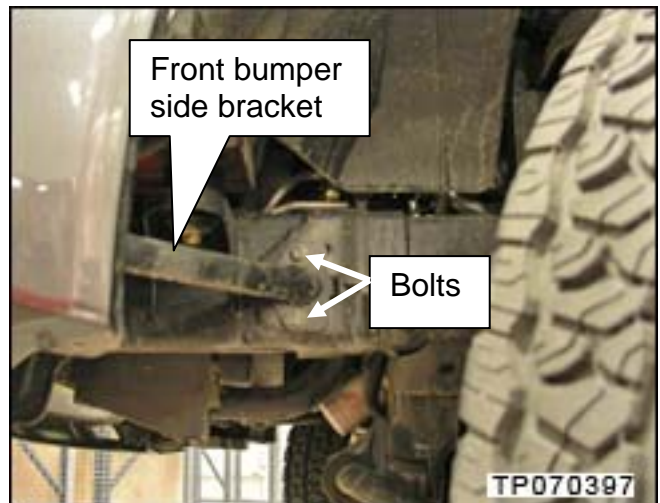

Figure C-20
d. Install and torque 2 bolts from the front bumper side bracket (see Figure C-20).